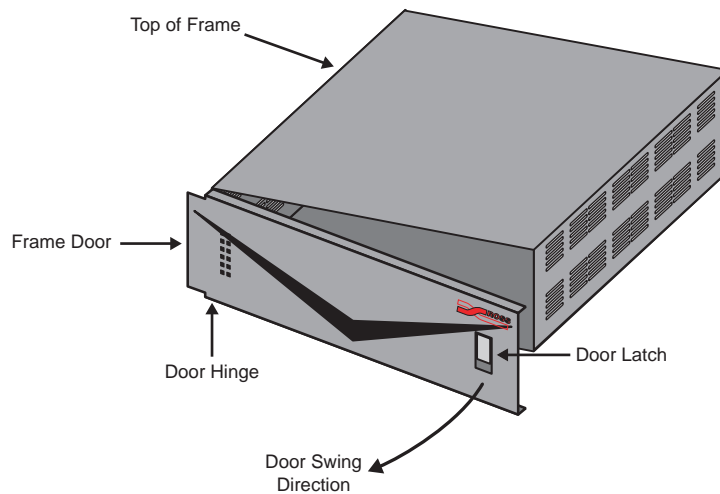

Figure 3.1 Frame Door Overview (QMD Shown)
2. Swing the door open, as shown (**Figure 3.1**).